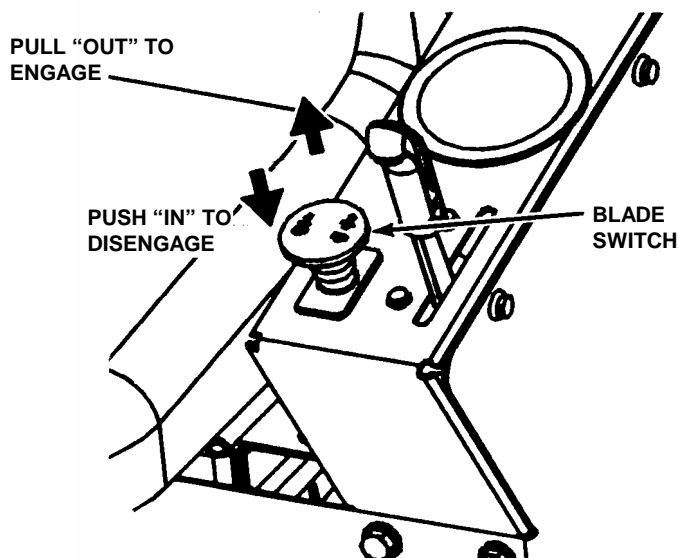

FIGURE 2.2
2.1.4. Check Blade switch to insure it works freely. Switch is pulled "OUT" into the "ON" position for blade engagement or pushed back "IN" into the "OFF" position for blade disengagement. See Figure 2.2. **IMPORTANT:** Blade rotation must stop in 5 seconds or less after moving blade switch to "OFF". Refer to Section "Blade Brake Adjustment".